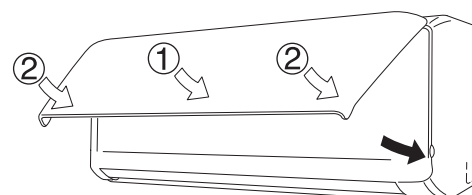

Fig. 1-161
- (6) Insert the top of the anti-mold filter, and then secure the bottom of the filter with the protrusions on the unit.
- (7) When closing the front panel, push the central part of the front panel first and then press the bottom right and left corners in place until you feel a click. (Fig. 1-161)